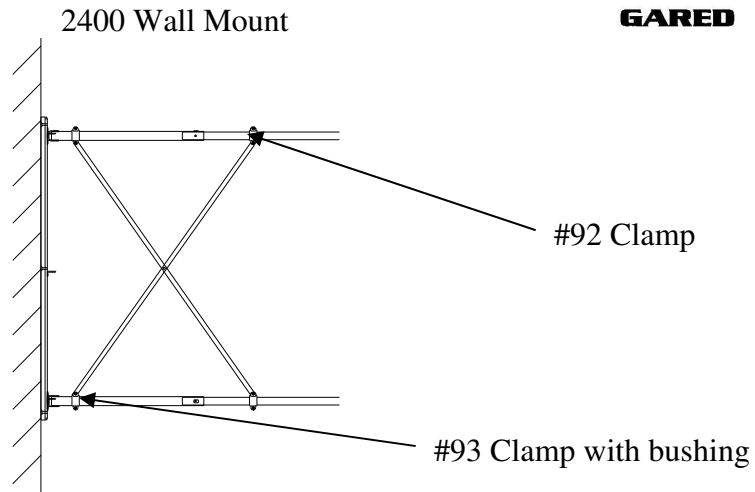

Figure 6. Cross bracing example.
- 12) A 1.9" O.D. cross brace tube is provided, this is installed on the upper set of extension tubes about 3" or so from the bank end of the inner tube with (2) #105 T-clamps.
- 15) To further brace the unit, the strap bracing should be installed on the lower extension arms. To complete this, the #93 clamps with bushings should be attached to the outer extension pipes. On the inner pipes, as close to the outer pipe as possible, attach #92 clamps. Before tightening down the carriage bolts, install the strap bracing on each clamp (as shown in Figure 6). Secure the two braces together with a hex bolt and lock nut.